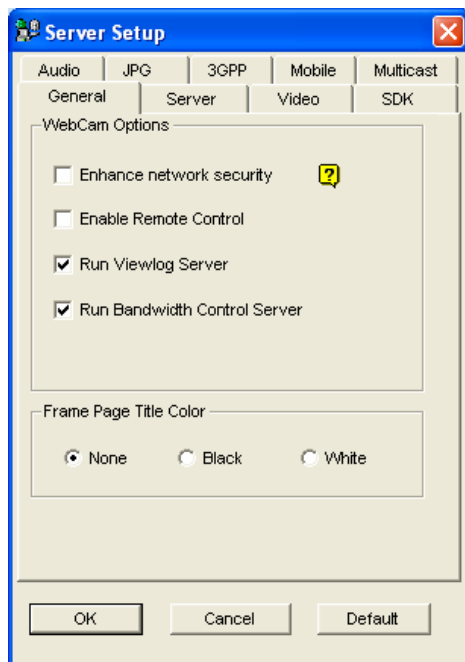

Figure 8-5
- **RPB port:** This port is used for remote playback feature. The default value is 5511. For this feature to work, the **Run ViewLog Server** option (Figure 8-5) must be selected too.